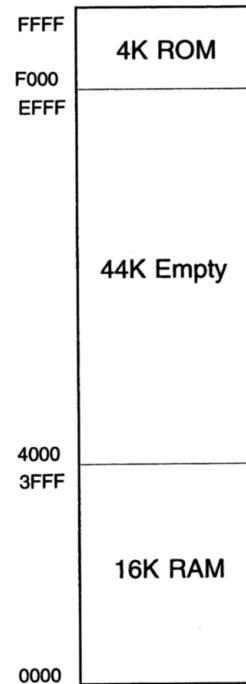

Figure 1-7. A sample memory map.
**FIGURE 1-7** mov Acc, Reg in the Harvard architecture.